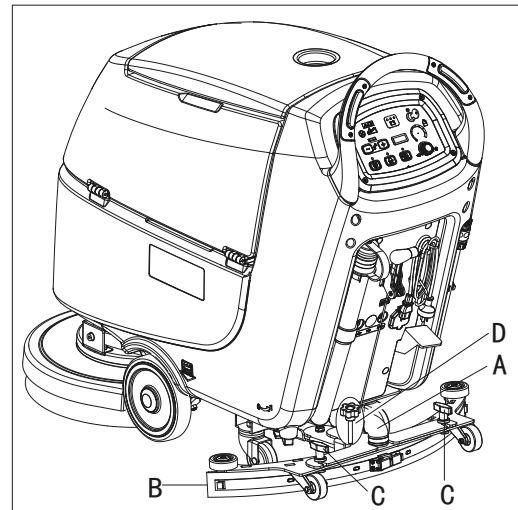
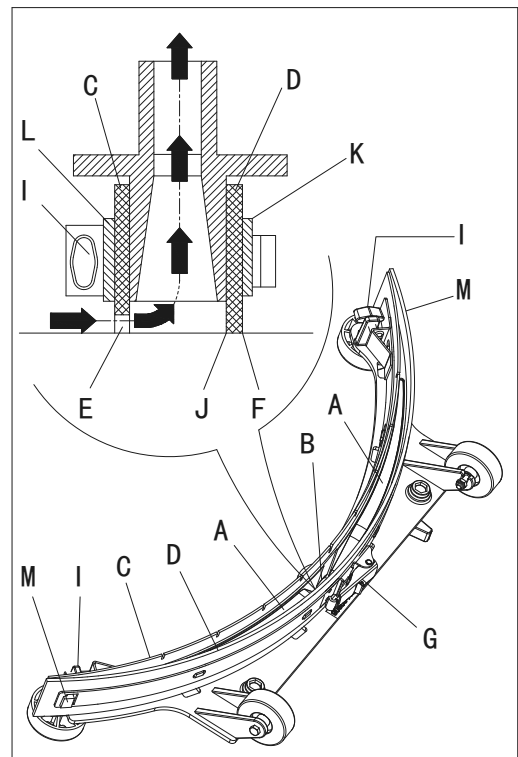

Figure 21
Figure 22
2. Check that the edges (E, Figure. 22) of the front blade (C) and the edges (F) of the rear blade (D) lay down on the same level, along their length; if necessary adjust their height according to the following procedure:
- Remove the tie rod (G), disengage the fasteners (M) and adjust the rear blade (D), then engage the fasteners (M) and install the tie rod (G).
- Loosen the knobs (I) and adjust the front blade (C), then tighten the knobs.
3. Check the front blade (C) and rear blade (D) for wear, cuts and tears; if necessary replace them according to the following procedure. Check that the front corner (J) of the rear blade (D) is not worn; if necessary, overturn the blade to replace the worn corner with an integral one. If the other corners are worn too, replace the blade according to the following procedure:
- Remove the tie rod (G), disengage the fasteners (M) and remove the retaining strip (K), then replace/overturn the rear blade (D). Assemble the blade in the reverse order of disassembly.
- Unscrew the knobs (I) and remove the retaining strip (L), then replace the front blade (C). Assemble the blade in the reverse order of disassembly. After the blade replacement (or overturning), adjust the height as shown in the previous step.
4. Connect the vacuum hose (A, Figure. 21) to the squeegee.
5. Install the squeegee (B) and screw down the knobs (C).
6. If necessary, adjust the squeegee balance adjusting knob (D).